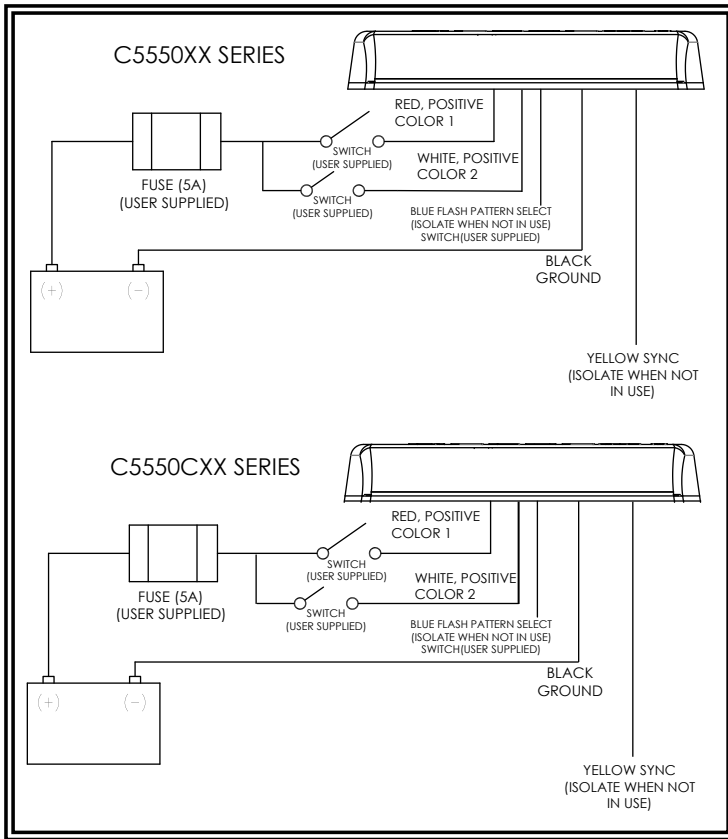

FIGURE 6
5. Connect the power wires as shown in the wiring section (see Figure 6).
The wiring for the permanent mount microbar is as shown in Figure 6. All wiring should be a minimum of 18AWG. The positive line must have a 5 amp fuse, as shown. A switch may be used to control the on/off function.